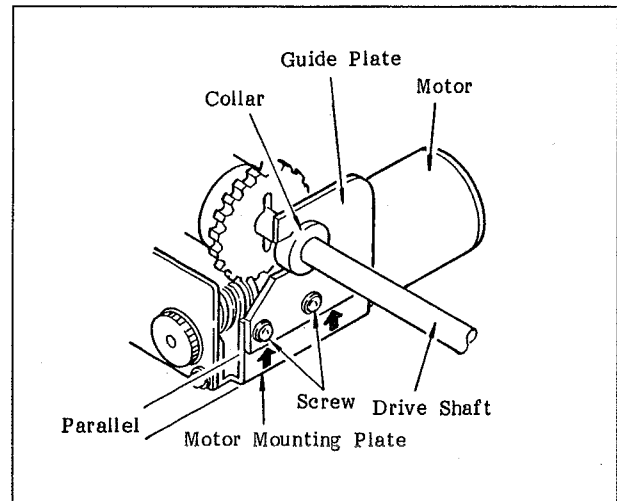

Fig. 6-25 Adjusting the Position of the Guide Plate
5. Tighten the two set screws while the guide plate is being pressed in the direction of the arrow shown in Figure 6-25. Make sure that the guide plate is mounted parallel to the motor mounting plate at this time.